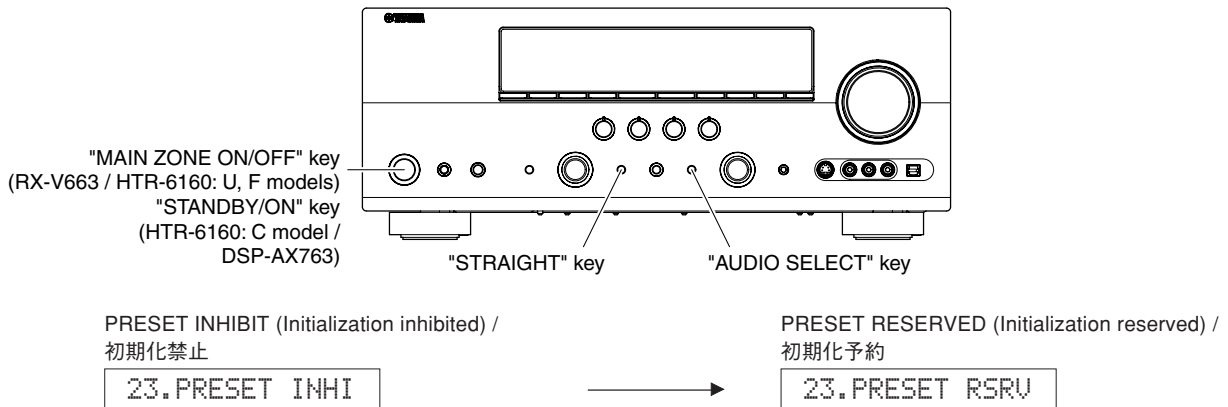

Fig. 4
2. Press the "MAIN ZONE ON/OFF" (RX-V663 / HTR-6160: U, F models) / "STANDBY/ON" (HTR-6160: C model / DSP-AX763) key while simultaneously pressing the "STRAIGHT" and "AUDIO SELECT" keys. (Fig. 4)
2. "STRAIGHT"キーと"AUDIO SELECT"キーを押ししながら、"STANDBY/ON"キーを押し、ダイアグを起動します。(Fig. 4)